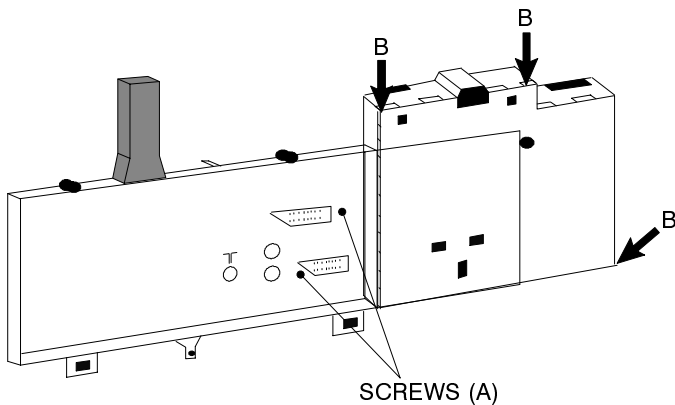

Fig. 6.
3. Carefully unclip the three metal clips marked B in Fig.6.
3. Retirer les 3 attaches métalliques repérées (B) sur la Fig.6.